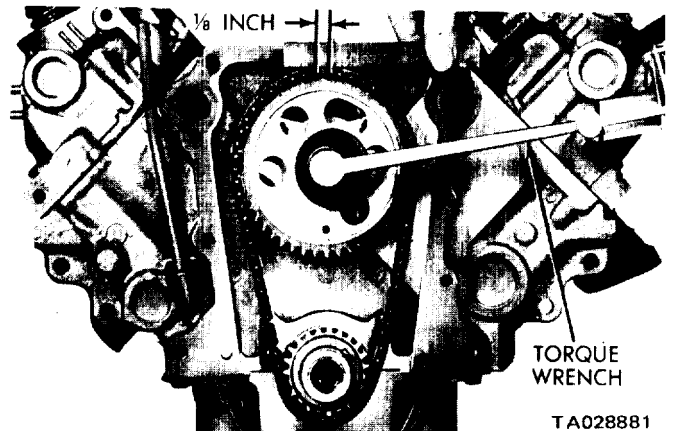

Figure 3-8. Measuring Timing Chain Stretch.
- (2) Place a torque wrench and socket over the camshaft sprocket attaching bolt and apply torque in the direction of the crankshaft rotation to take up the slack; apply 30 ft-lbs if the cylinder heads are installed, or 15 ft-lbs if the cylinder heads are removed. After torque is applied to the camshaft sprocket bolt, do not permit the crankshaft to move. It may be necessary to block the crankshaft to prevent rotation.
- (3) Holding a scale with the dimensional reading even with the edge of a chain link, apply torque in the reverse direction (30 ft-lbs with cylinder heads installed or 15 ft-lbs with cylinder heads removed). Note the amount of chain movement (figure 3-8).